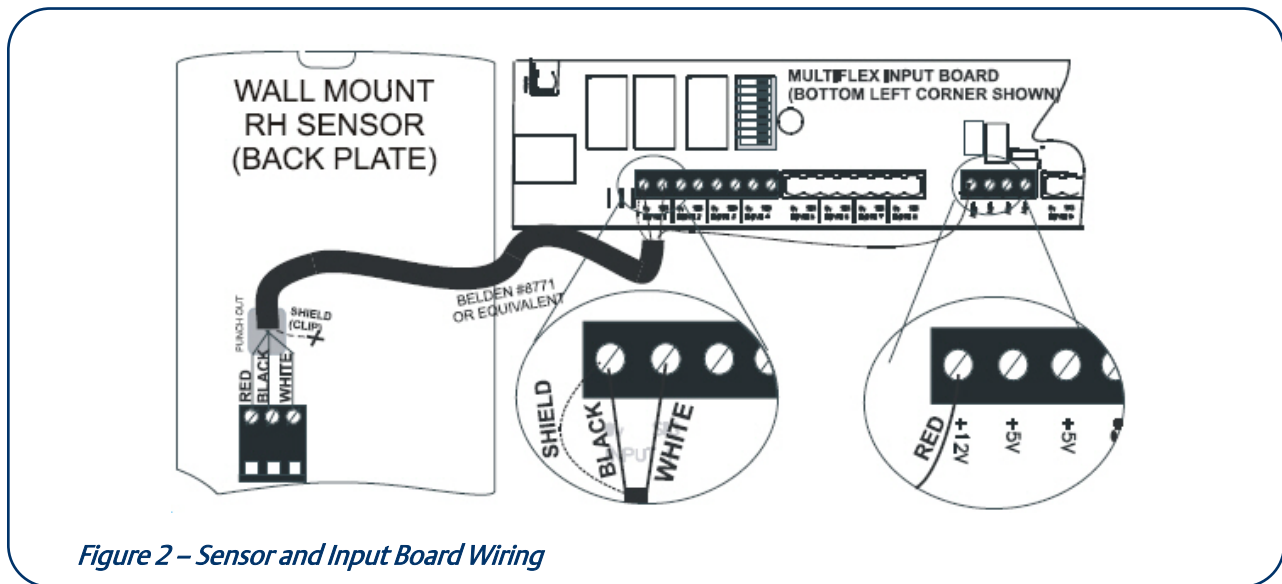

Figure 2 – Sensor and Input Board Wiring
2. Connect the RED, BLACK, and WHITE wires to the screw terminals the sensor's connector as shown in Figure 2. Clip the SHIELD wire.
RH wiring is the same as the RH wiring shown in the diagram(Figure 2). For temp sensor wiring, follow the steps below:
2. Connect the BLACK and CLEAR wires to the screw terminals the sensor's connector as shown in Figure 2. Clip the SHIELD wire. Note that the third terminal on the sensor connector is unused.